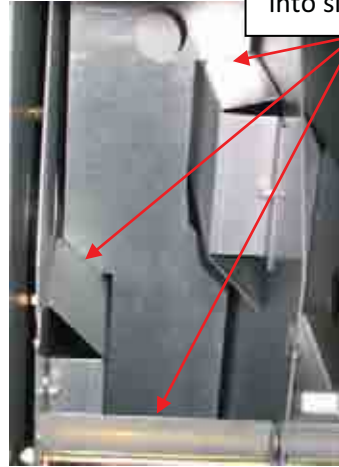

Figure 35 – Install front spacer
- f. Slip the second spacer into the proper front bin three slots (*left side, right side, and bottom*) (*Figure 35*).